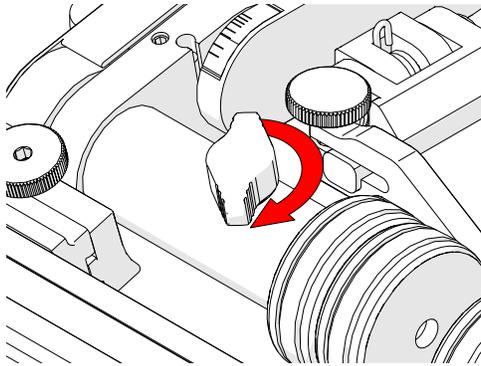

Fig. 22 - Activate brake
1. Rotate the two red knobs clockwise to activate system braking (Fig. 22).